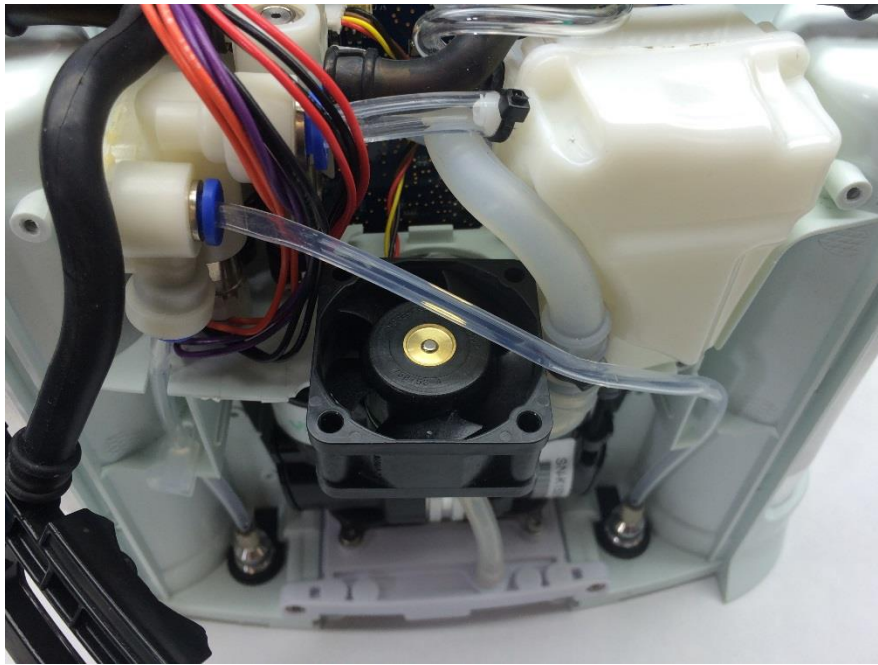

Figure 8: Fan removal
4. Lift the Tube Bracket and Muffler Assembly away from the fan. Then pull the fan out of the assembly (Figure 8). The fan is held in by mounts on the chassis, so it will require some force.
1. Insert the new fan in the allotted space on the chassis, making sure that the cable harness is facing the motherboard and that flow of the fan is oriented downward (as shown in Figure 8). The fan will snap back into the chassis mounts.